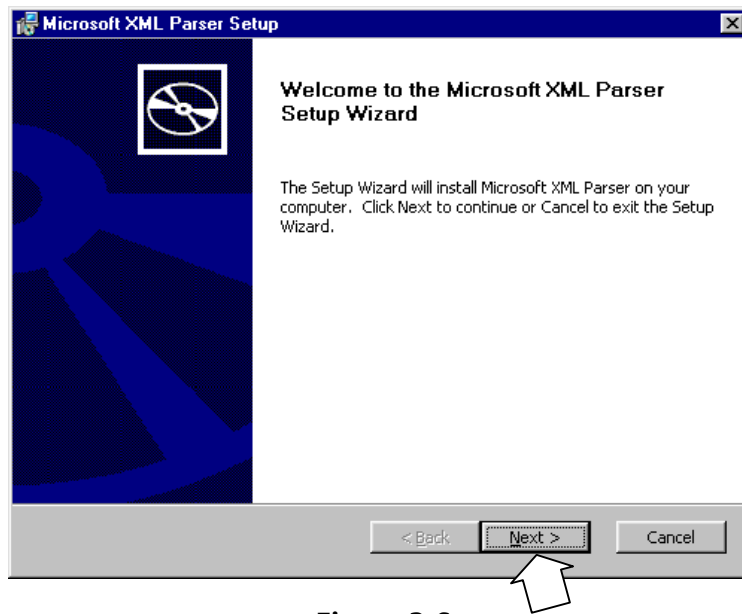

Figure 2-6
10. When the Installation Wizard has finished loading a portion of these files, the “Microsoft XML Parser Setup” window is displayed (figure 2-6). Click on **Next >** to continue.